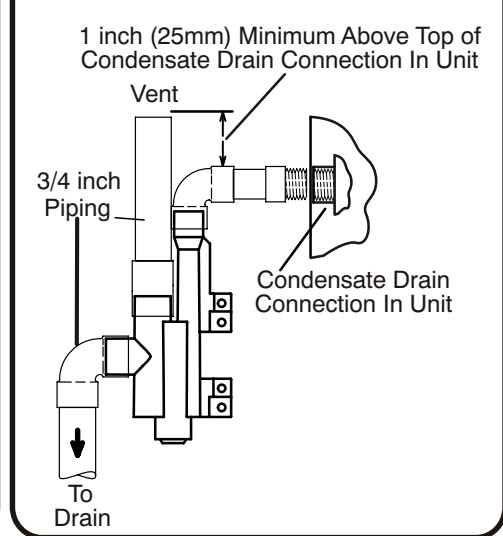

Figure 31
2. Remove plug (Figure 31) from the cold end header box at the appropriate location on the side of the unit. Install field-provided 1/2 NPT male fitting into cold end header box. Use Teflon tape or appropriate pipe dope.
3. Install the cap over the clean out opening at the base of the trap. Secure with clamp. See Figure 31.
4. Install drain trap using appropriate PVC fittings, glue all joints. Glue the provided drain trap as shown in Figure 31. Route the condensate line to an open drain. *Condensate line must maintain a 1/4" downward slope from the furnace to the drain.*